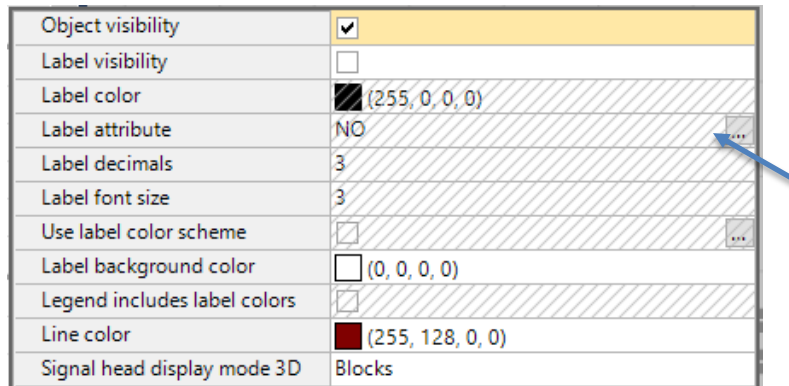

Figure 4: Signal Heads Graphic Parameters Pop Up Window
- step iv. In the pop-up window (Figure 4) select *Label Attributes*. (You need to click the “...” to the right.)